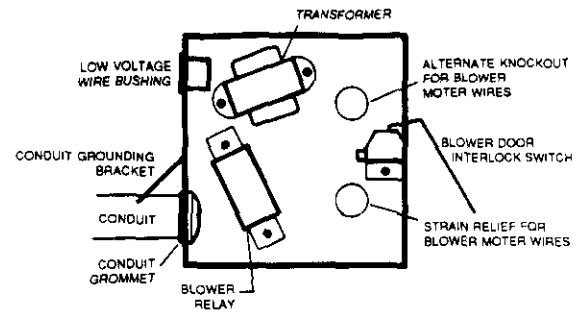
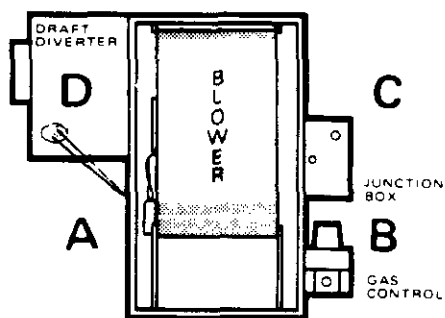

Figure 20 (4-019)
Figure 22 (4-024)
- a. Line voltage wiring: See Figure 20 to identify junction box components. Remove blower motor, red or blue wire from spliced fan/limit control brown wire. Remove blower motor black wire from blower relay, terminal "N.O." Remove blower motor white wire from spliced transformer primary, white wire. Remove fan/limit control, black wire from blower relay, terminal "N.C.". Remove 3/4"-strain relief busing from back of junction box.
- a. Line voltage wiring: See Figure 20 to identify junction box components. Remove blower motor's black wire from spliced black and orange wires. Remove blower motor's white wire from transformer primary.
18. Remove junction box alternate knockout in back of junction box. See Figure 20 for location of alternate knockout.
19. At location "B" in Figure 22, install 7/8"-insert bushing in furnace casing. Install junction box with blower door interlock switch facing blower end of furnace. See Figure 20 for interlock switch location.
22. Make sure conduit grounding bracket touches conduit. See Figure 20 for grounding bracket location.
To install draft diverter in position "D", Figure 22: